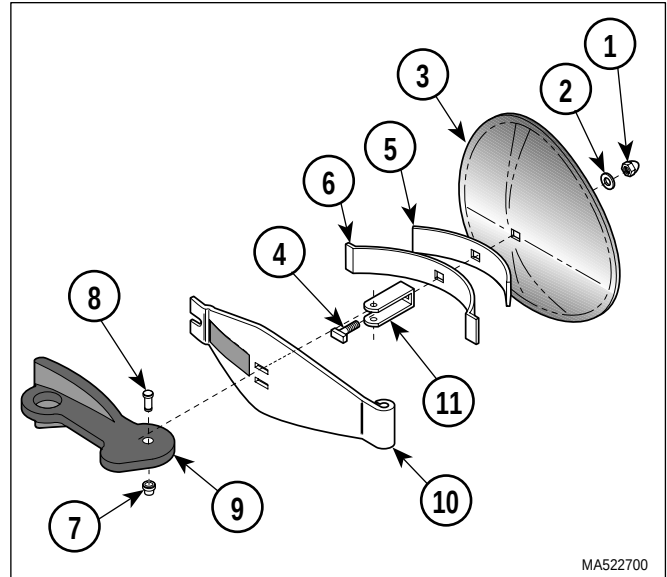

**Figure 4-17. Door Assembly
Washer (2, Figure 4-17) is held on by removable threadlocking adhesive (Loctite 242) and may be difficult to remove. Pull on door to dislodge washer.
- (1) Remove cap nut (1, Figure 4-17), washer (2), and door (3) from T-bolt (4).
- (2) Remove short spring (5) and long spring (6) from T-bolt (4).
- (3) Remove push nut (7), pin (8), handle (9), and door cross arm (10) from U-bracket (11).
- (4) Remove T-bolt (4) from U-bracket (11).